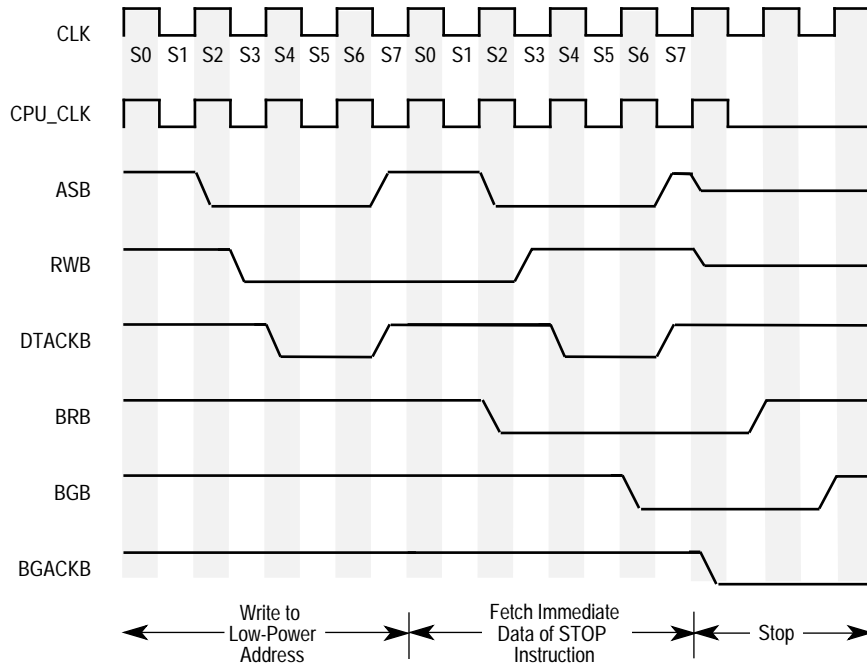

Figure 4. Clock Stop Timing with Bus Arbitration for 16-bit Data Bus
3.) This step is optional depending on whether the user's applications require the three-stateable signals of the SCM68000 to be put into a high-impedance state. To put the SCM68000 into a three-state condition, the proper method for arbitrating the bus as described in **3.2 Bus Arbitration** in the *EC000 Core Processor (SCM68000) User's Manual* should be completed during the fetch of the status register data for the STOP instruction. A timing diagram with the bus arbitration sequence is shown in Figure 4.